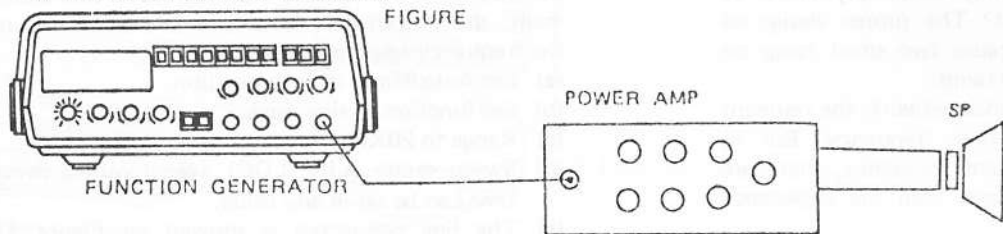

Figure 11
- (e) The line connected is showed on Figure 11.